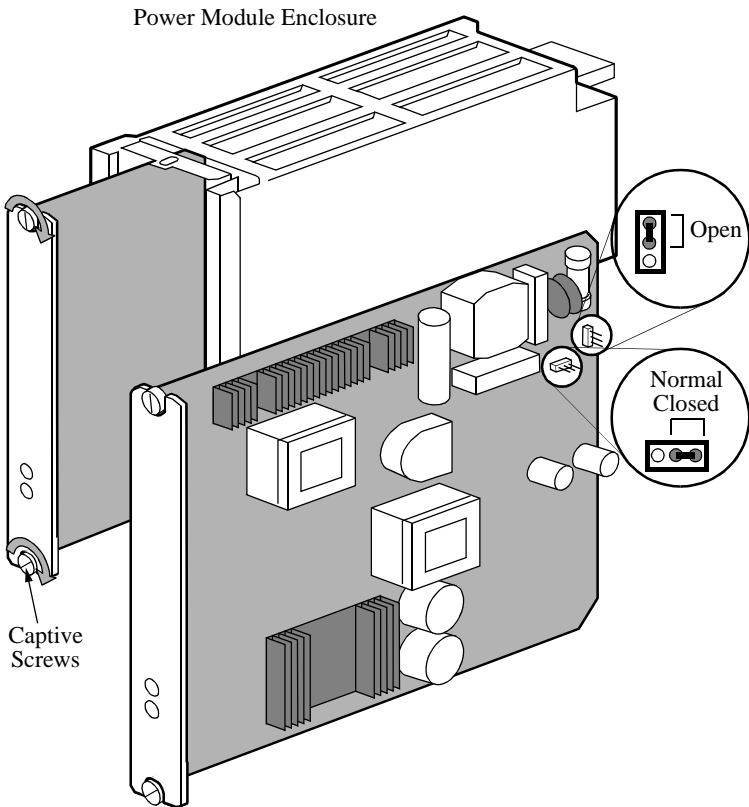

Figure 1-12. Power Module Alarm Circuit Switches
6.	<p>Optionally, connect a remote alarm monitoring device to the AccessWay, to alert you to a fault in the DC output voltage.</p> <ol style="list-style-type: none"> Determine whether you want the alarm relay contacts open or closed when AccessWay output voltages are within normal operating range. The default setting is Normal Open. Optionally, reverse this setting: at the front of the AccessWay, loosen a power module's captive screws and pull the power module out of the AccessWay. Set the jumper to the Normal Closed position (Figure 1-12). Replace the power module in the AccessWay. Tighten the captive screws that secure it. Connect two lengths of wire from the alarm monitor device terminals to the ALARM 1 terminals on the back of the AccessWay.